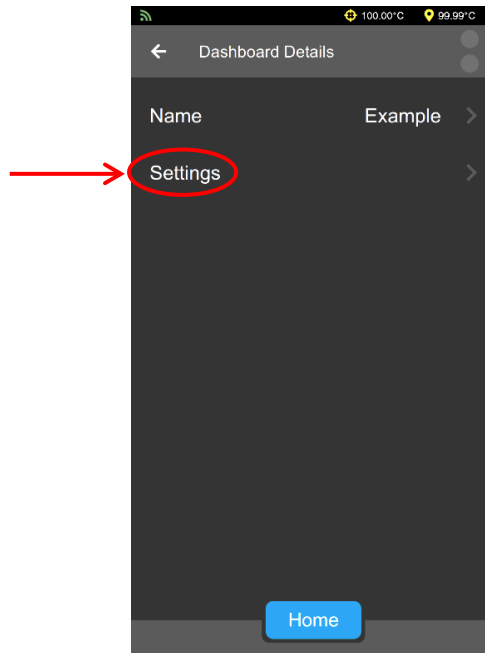

Figure 59: Selecting Dashboard Details Settings Page
4. Select **Settings** to navigate to the **Dashboard Settings** Page. See Figure 59.